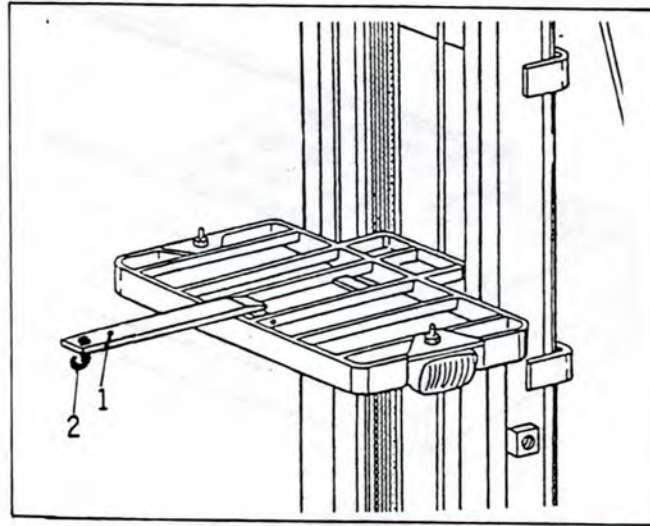
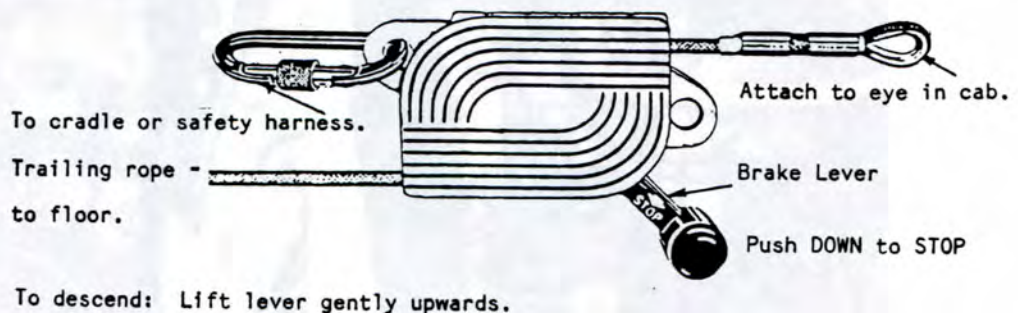

Fig. 23 Escape Device Anchor Point
Fig. 24 Escape Device (Typical)
8.2.1 Extend the support arm (1 Fig. 23) outwards over the front of the loadguard.
8.2.2 Attach the cable eye equipment (Fig. 24) to the attachment point (2 Fig. 23).